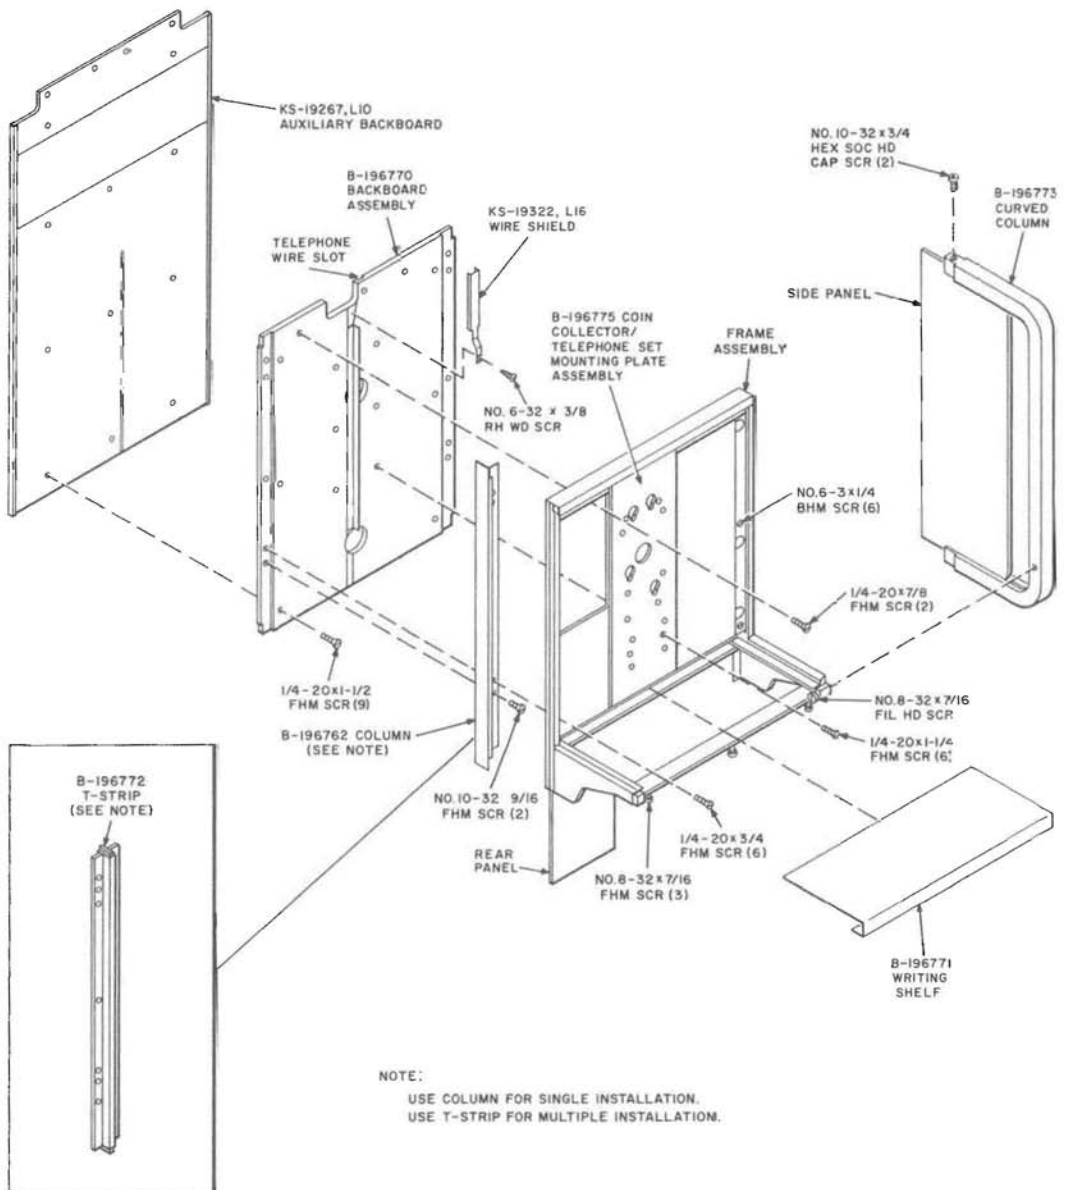

Fig. 7—Assembly of KS-19267 Shelf
3.03 Secure B-196770 backboard assembly to List 10 auxiliary backboard, if applicable, using nine 1/4-20 by 1-1/2 FHM screws (Fig. 7).
3.04 Install KS-19322 sign if applicable and cover exposed electric power cord between sign and shelf with KS-19322, List 16 wire shield (Fig. 7).
Where multiple units are installed, a B-196772 T-strip will be used to join two shelves together. This T-strip will replace the side column. T-strips are furnished as part of KS-19267, List 2 and List 4 shelf assemblies (Fig. 7).
- (b) Remove the following per Fig. 7:
- 4.06** Refer to Fig. 7, 8, and 9 and Tables A and B for replacement parts.